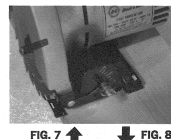

FIG. 7
For convenience in following penciled guide lines, take the following steps: (1) Make sure the Saw is unplugged. (2) Using the knob on the lower blade guard, fully retract the guard. (3) Place the Saw on a straight board with the inside of the blade perfectly flat against the edge of the board. (4) Note where the edge of the board passes under the guide and make a mark on the guide at this point (Figure 7). If the board edge lines up with the guide edge, the mark is unnecessary.